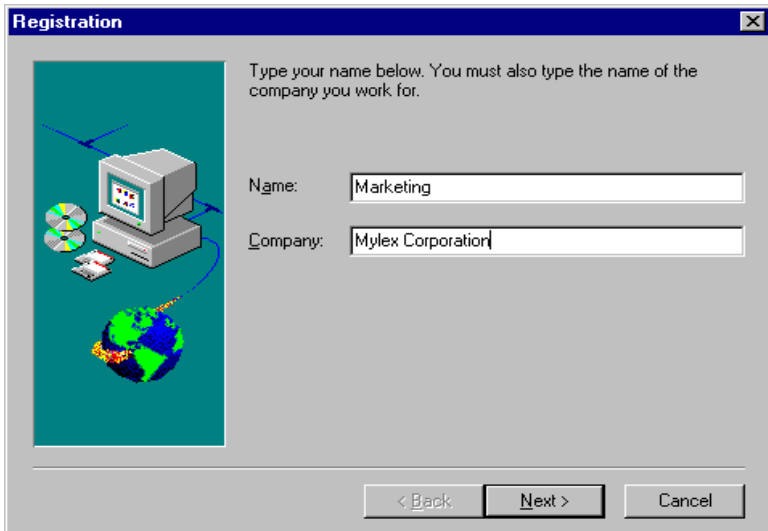

Figure 2-4. Personalize Global Array Manager
6. You are prompted to identify this copy of the program (Figure 2-4).